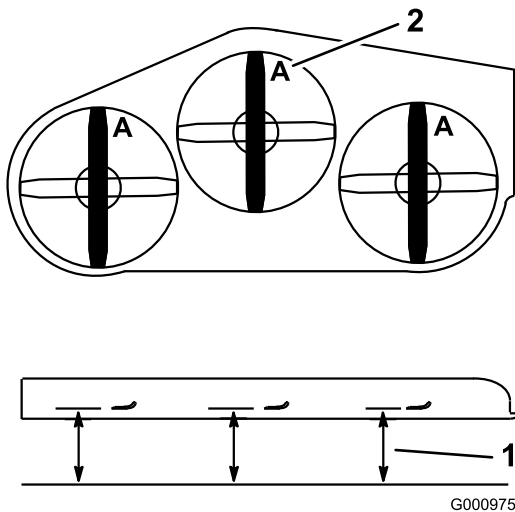

Figure 60
3. Rotate the blades until the ends face forward and backward (Figure 60). Measure from a level surface
to the cutting edge, position **A**, of the blades (Figure 60). Note this dimension.